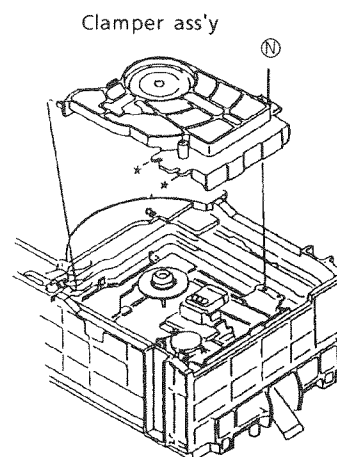

Fig.28
5. Remove a screw ⑤ securing center of the clamper ass'y.(See Fig. 28)